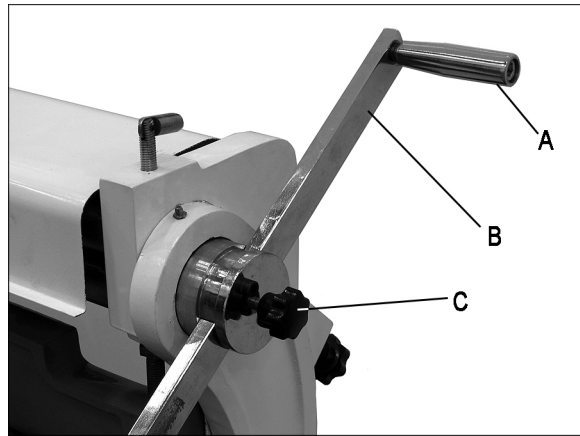

Figure 1
7. Remove one handle (A, Figure 1) from the operating handle assembly, using an 8mm hex key.
8. The operating handle can be installed on either end of the machine. Loosen lock bolt (C, Figure 1).
9. Slide bar (B, Figure 1) into hub and tighten lock bolt (C, Figure 1) to secure.
10. Re-install handle (A, Figure 1).